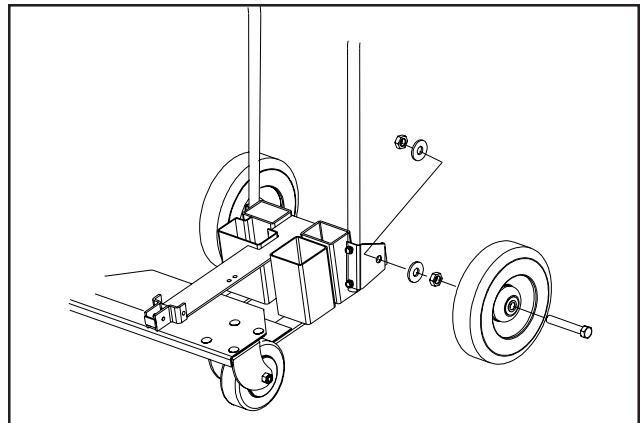

FIGURE 3
3. Attach rear wheel, Part # 5053, to Kaddy frame using: 5/8-16 x 4" long hex head cap screws, washers and jam nuts. Insert hex head cap screw into wheel. Screw on hex jam nut until finger tight. Add flat washer to screw. Insert wheel assembly into large hole in handle bracket. Add another flat washer and hex jam nut next to wheel and tighten. (See Figure 3.)